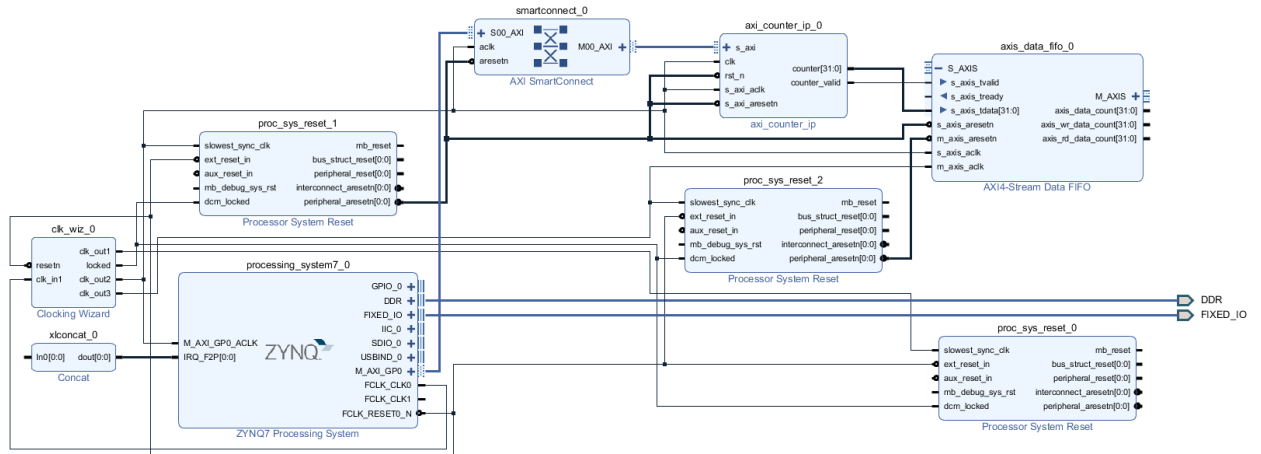

Figure 16 – Final Hardware Platform IPI Block Diagram
18. Regenerate the block design layout by clicking on  at the top of the IPI canvas. The block diagram should look like Figure 16.